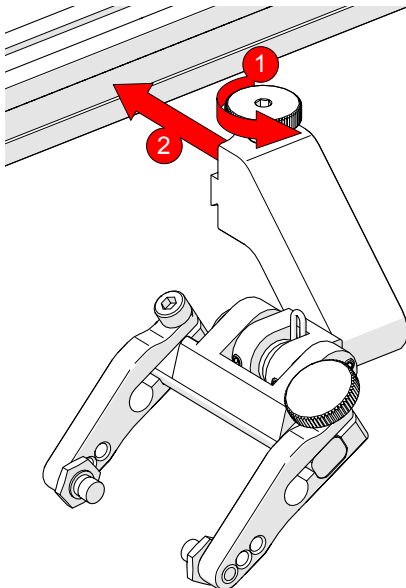

Fig. 30 - Attach to frame bar
1. Rotate the probe holder adjustment knob and attach the probe holder to a frame bar (Fig. 30).